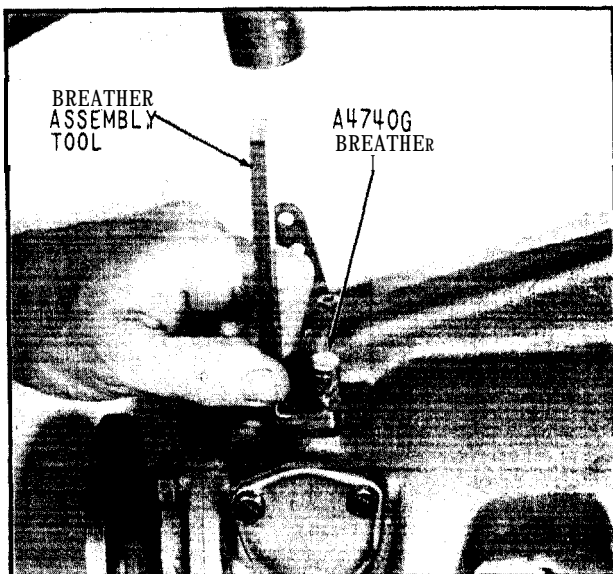

Fig. 78 Installation of Breather Assembly
79. Install the breather assembly as shown in (Fig. 78). Do not hammer on the top of the breather assembly illustrated as this will damage the sealing element. For installation of other type breather assemblies see page 48. (paragraphs 3 & 4) for instructions.
- In addition to the breather assembly shown in (Fig. 78), other breather assemblies will be found in use as illustrated in (Fig. 87) and (Fig. 88). The above illustrations demonstrate the manner in which these breather assemblies are installed.